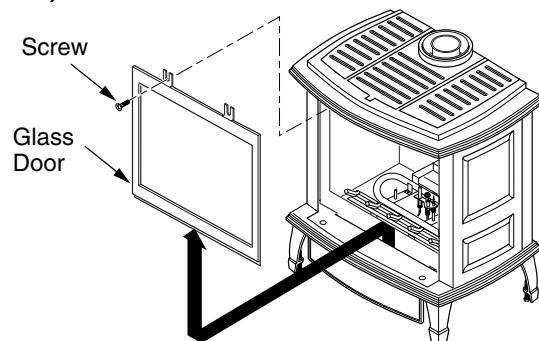

Figure 53 - Removing Glass Door from Burner System
- Remove the screws from the 2 tabs at the top of the glass door while holding door securely keeping it from falling forward (see Figure 53).
- Grasp door by both sides and ease it upward off of the lower bracket (see Figure 53).